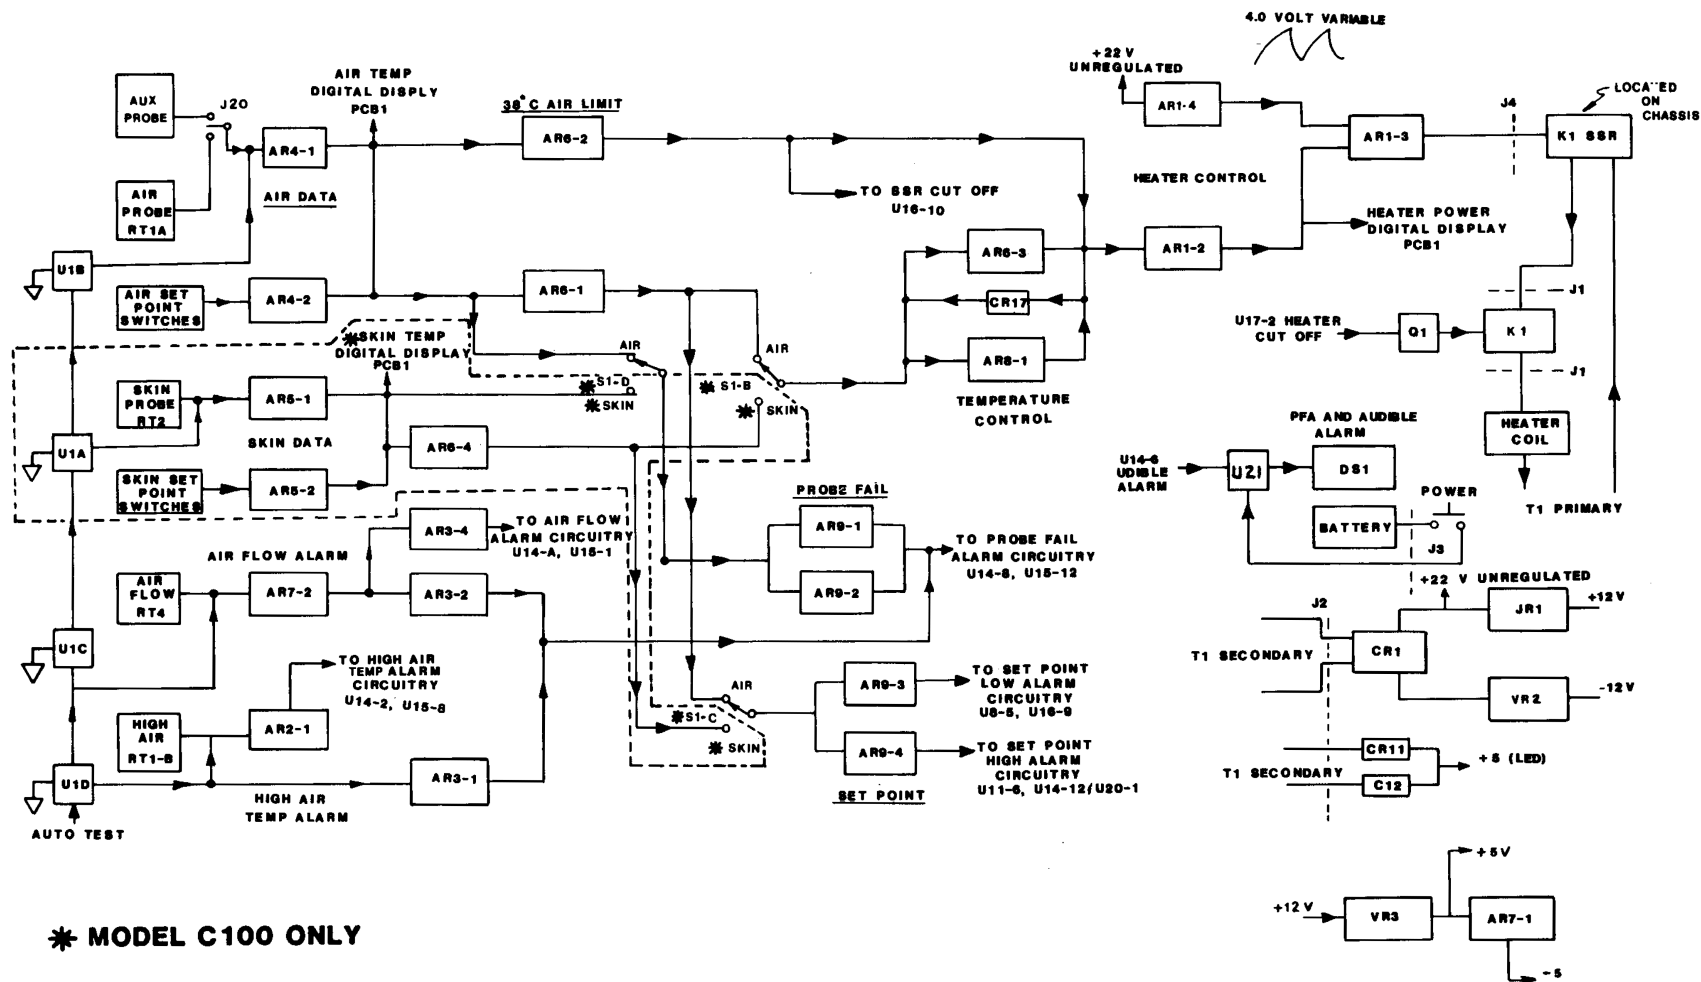
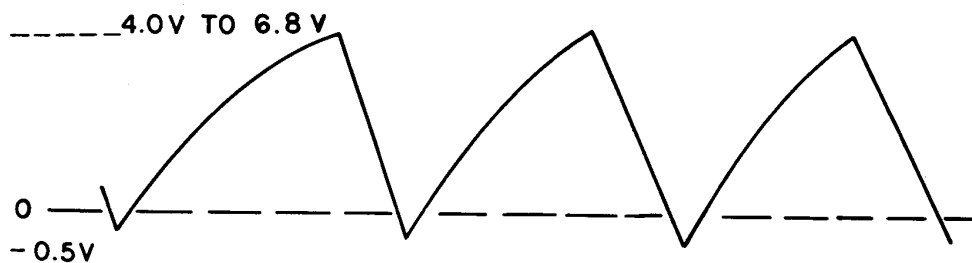

FIGURE 3.2 FUNCTIONAL BLOCK DIAGRAM, PCB2 ANALOG SECTION
FIGURE 3.6 VARIABLE TRIANGULAR WAVEFORM
PCB2 consists of an analog section and digital section. The analog section (Figure 3.2) monitors the probes, sensors, and set temp switches; it also contains the power supply, temperature control, heater control, and power failure alarm circuitry.
*SKIN DATA CIRCUITRY (Figs. 3.2 and 7.1) The function of the Skin Data Circuitry is to monitor the Skin Probe RT2 and Skin Set Temp switches and provide an error signal to the Temperature Control circuitry. The Skin Temperature Probe is connected across a linearization network consisting of R50 through R53. The output of the linearization network is applied to differential amplifier AR5-1. This amplifier has a gain of 15 and has an output of $200 \text{ mV}/^\circ\text{C}$. The output of AR5-1 is applied to the Probe Fail Circuitry via S1-D. In addition, the output is applied to the junction of R47 and R55, the skin temperature summing point. The other input to this summing point is from AR5-2, the set temp amplifier. AR5-2 is connected to the Skin Temperature set temp switches, and is a current- to-voltage amplifier whose output is $-500 \text{ mV}/^\circ\text{C}$. The summed voltage which represents the difference between the infant's skin temperature and the set temp switches is applied to AR6-4, an error amplifier, whose output is ± 5.0 volts per $\pm 1.0^\circ\text{C}$ difference between skin temperature and set temp temperature. The output of AR6-4 is applied to the Temperature Control Circuitry via S1-B and the Temp Fail Circuitry via S1-C.
ANALOG (Figs. 3.2, and 7.1 or 7.2) The output of the Air Data (AR4-1) or Skin Data (AR5-1)* circuitry is applied to the Probe Fail circuitry across CONTROL MODE Switch S1-D*. When a temperature sensing thermistor shorts, the output of the differential amplifier (AR4-1 air, AR5-1 skin)* goes to approximately +10 volts (saturation) which causes AR9-1 pin 13 to go low and activate the probe failure alarm circuitry. A shorted high temperature and shorted air flow probe will also cause TP30 to go low and activate the probe failure alarm circuit.
ANALOG (Figs. 3.2, 7.1 or 7.2) The output of the Air Data or Skin Data* circuitry is applied to the Temp. Fail (Set Temp) circuitry. In the Air Mode, when the air temperature falls 3.0°C below set temp, the output of Error Amplifier AR6-1 will go to +8.8 volts. This +8.8 volts applied to AR9-3 (pin 4) causes AR9-3 (pin 2) to go low and activate the Set Temp Low Alarm circuitry. When the air temperature rises 1.5°C above set temp, the output of AR6-1 goes to -5.0 volts. This -5.0 volts is applied to AR9-4 (pin 7) and causes AR9-4 (pin 1) to go low and activate the Set Temp High Alarm circuitry.
ANALOG (Figs. 3.2, 7.1 or 7.2) Thermistor RT4, which is located between the Heater and Fan, is heated by the current flow from +12 volts via R31 to ground. This current flow maintains the voltage at the junction of R31 and R40 at approximately +11.0 volts. In the event that the fan stops turning, the voltage at the junction of R31/R40 will go to approximately +6 volts due to the rise in temperature. The +6 volts at the input of AR7-2 will cause its output to rise to +5.5 volts and cause the output of comparator AR3-4 (pin 13) to go low and activate the Air Flow Alarm circuitry. If RT4 shorts the output of AR7-2 will rise to approximately 11.0 volts and cause the output of comparator AR3-4 (pin 13) to go low and activate the Air Flow Alarm circuitry.
ANALOG (Figs. 3.2, 7.1 or 7.2) The High Air Temperature Circuitry is controlled by thermistor RT1-B. As long as the Air Temperature is between 20 and 39.5°C, the voltage at input of AR2-1 (pin 5/6) will be greater than 2.6 volts. When the air temperature rises above 39.5°C the input voltage falls below 2.6 volts and the output of AR2-1 (pin 7) will go low and activate the High Air Temperature Alarm Circuitry. In the event that the thermistor shorts the output of AR2-1 (pin 7) will also go low and activate the High Air Temperature Alarm circuitry.
38°C** AIR LIMIT CIRCUITRY (Figs. 3.2, 7.1 or 7.2) The function of the ~~38°C** Air Limit Circuit~~ is to shut down the heater when the Incubator air temperature exceeds 38°C**. When the output of AR4-1 (pin 1) goes above 3.6 volts (38°C) (see Note Below) the output of AR6-2 (pin 14) goes high and shuts down the Temperature Control Circuitry which in turn will shut down the Heater Control Circuitry.
TEMPERATURE CONTROL CIRCUITRY (Figs. 3.2, 7.1 or 7.2) Upon initial turn on, the air temperature of the Incubator or the infants skin temperature will be low and the error voltage at TP20 (air) or TP13 (skin*) will be highly positive. This positive voltage saturates AR6-3 negative. This negative saturation forward biases CR17 and cancels out the positive voltage at the junction of CR21 and R79 and drives it to approximately -6.0 volts.
HEATER CONTROL CIRCUITRY (Figs. 3.2, 7.1 or 7.2) AR1-4 and its associated circuitry provide a variable triangular waveform as illustrated in Figure 3.6.
HEATER COIL CIRCUITRY (Figs. 3.2, 7.1 or 7.2) The Heater Coil HTR1 is connected across the ac line and is turned on and off by Heater Power relay K1 which is a solid state relay controlled by the Heater Control circuitry described above.
POWER FAILURE ALARM (PFA) AND AUDIBLE ALARM CIRCUITRY (Figs. 3.2, 7.1 or 7.2) The Power Failure Alarm (PFA) and Audible Alarm circuitry consists of Q2, U21, DS1, and ENTRY 1. When the POWER switch (S1-3C-4C) is on and the ac line voltage is absent, the -12 volts which keeps Q1 turned on and U21 and DS1 off, will disappear and the battery will activate DS1 and turn on the POWER FAIL indicator on PCB1. During an alarm condition the alarm is activated by a logic low from the digital logic circuitry at TP7.
HEATER CUT OFF CIRCUITRY (Figs. 3.2, 7.1 or 7.2) Transistor Q1 will disconnect the Heater from the ac line via relay K1 during all alarm conditions except SET TEMP low. The alarm circuitry is discussed in detail elsewhere in this section.
POWER SUPPLY (Figs. 3.2, 7.1 or 7.2) The power supply accepts a voltage from the secondary of T1 and puts out ± 12 volts regulated dc via VR1 and VR2. The +12 Vdc is also regulated at +5 Vdc by VR3. The output of VR3 is also applied to inverter AR7-1 which supplies a -5.0 Vdc which tracks the +5.0 Vdc.